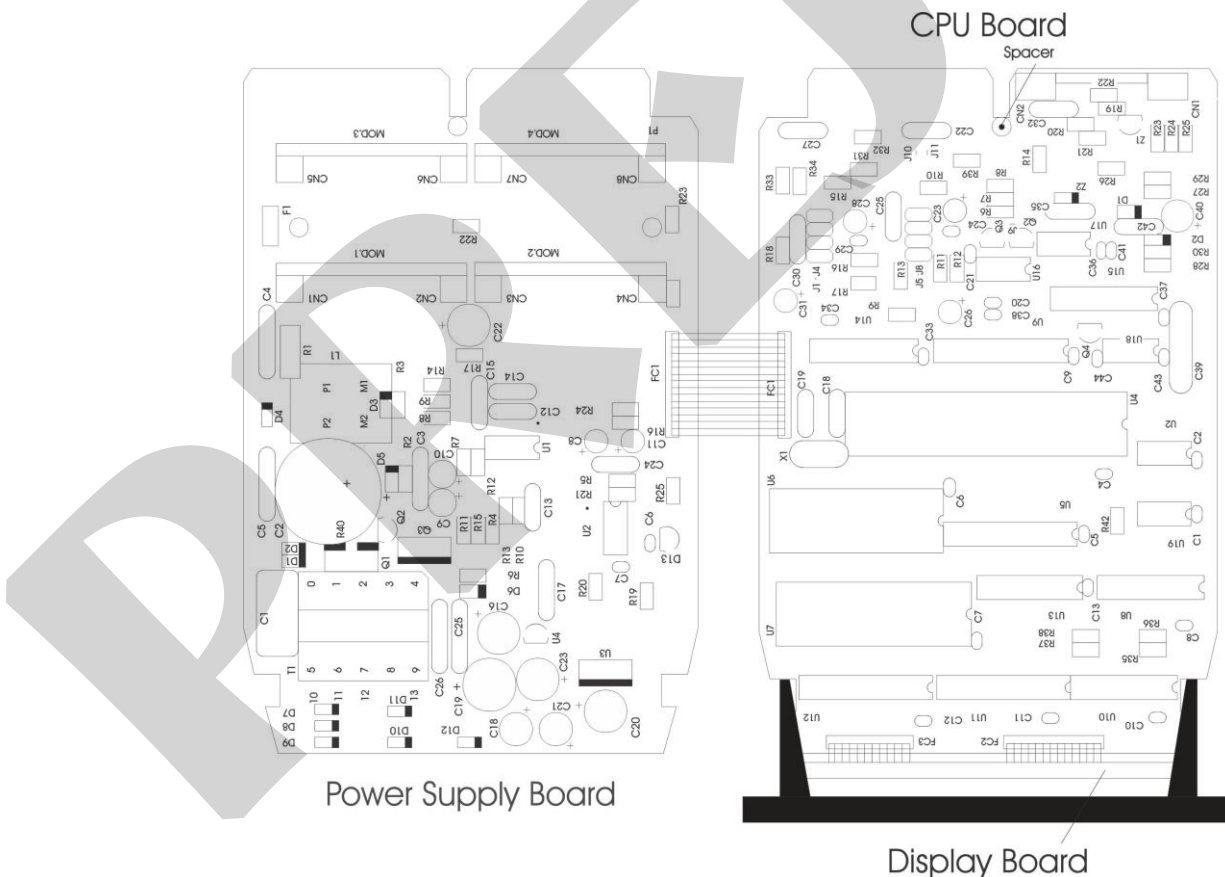

Fig. 20 - Instrument Hardware
- iv) Move the Power Supply Board to the right and open the boards according to Figure 20.